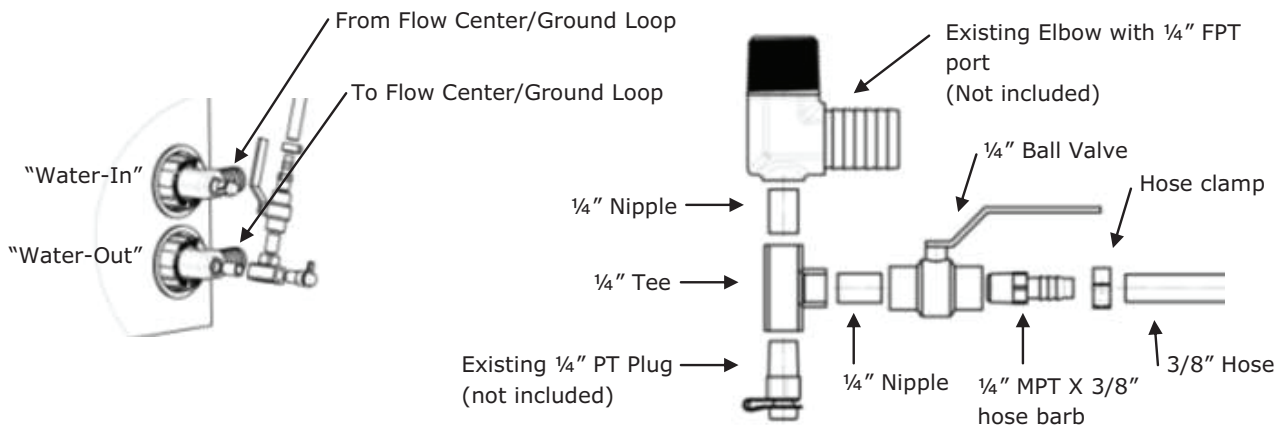

Figure 4: Geo-Booster installation between flow center and geothermal heat pump
3. Remove PT plug from elbow on the lowest pressure side of the heat pump. This is generally the "water out" side. Finalize plumbing connections using the supplied fittings (Figure 4).